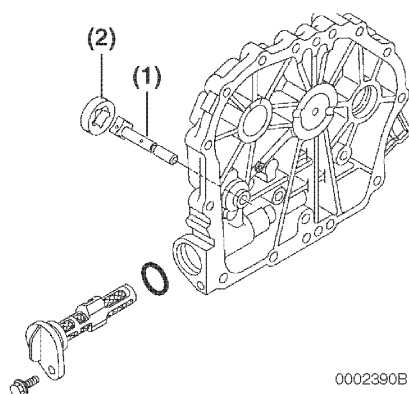

Figure 6-76
2. Install the inner rotor and shaft assembly (**Figure 6-76, (2)**). Install the outer rotor (**Figure 6-76, (1)**) with the dot on the rotor facing up.